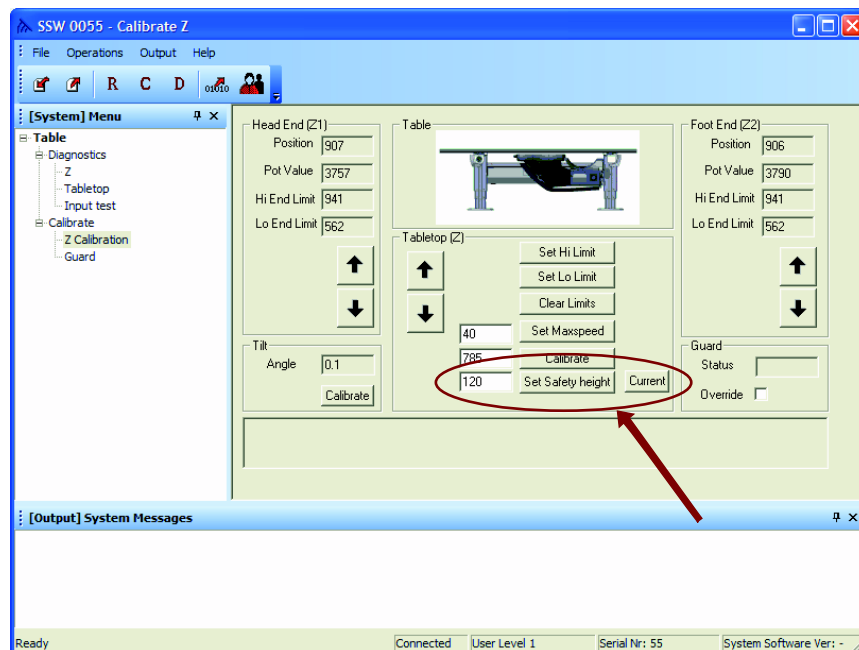

Fig. 4-164 Set Safety Height
3. Press the *Current* button beside the *Set Safety Height* button, see **Fig. 4-164**.